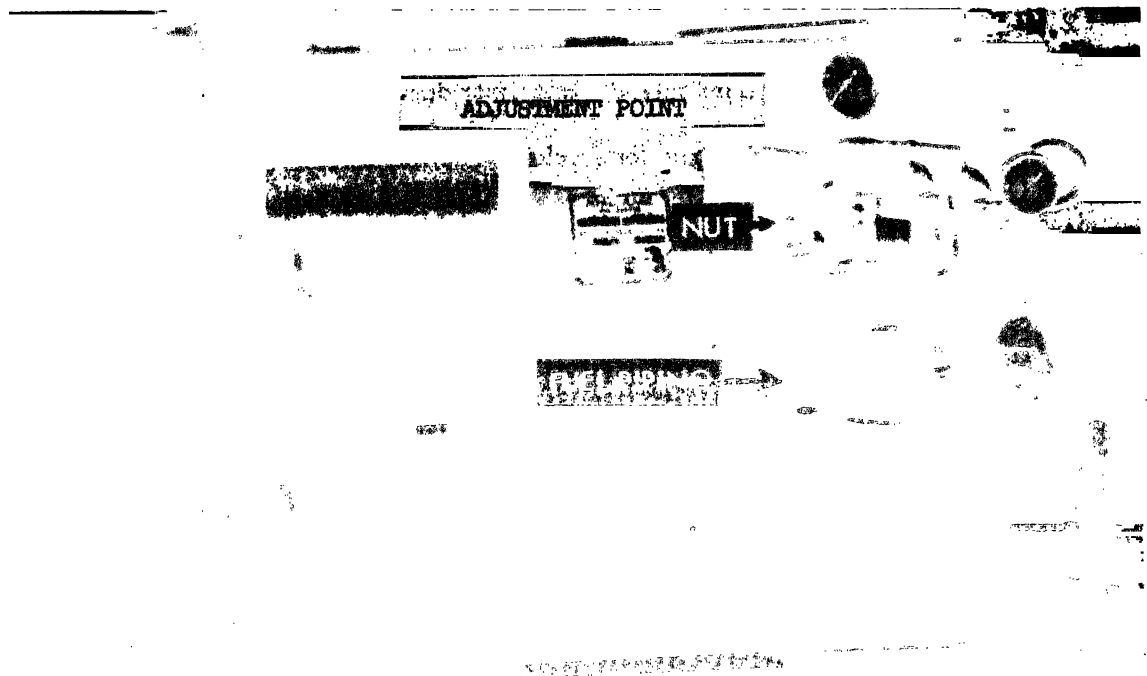

FIGURE 32. REMOVAL AND SERVICE DAMPER CYLINDER
2. Refer to Fig. 32 and remove the air damper cylinder and damper cylinder linkage.
1. Refer to Fig. 32 and install the air damper cylinder and the damper cylinder motor linkage.
1. Refer to Fig. 32 for the linkage adjustment points.